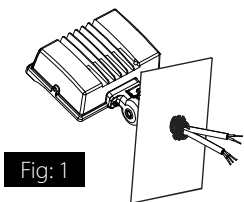

Fig: 1
1. Secure the fixture to a 1/2" NPS hole in the junction box or landscape post as shown in **Fig. 1**. Seal arm thread using Teflon® tape or silicone sealant.